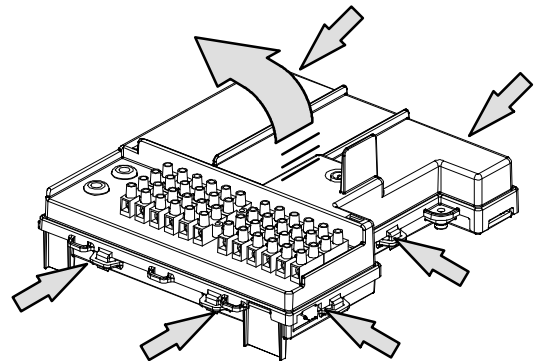

Fig. 2.8
- 7 Free the hooks placed on the three sides indicated and rotate the lid towards left (Fig. 2.8).